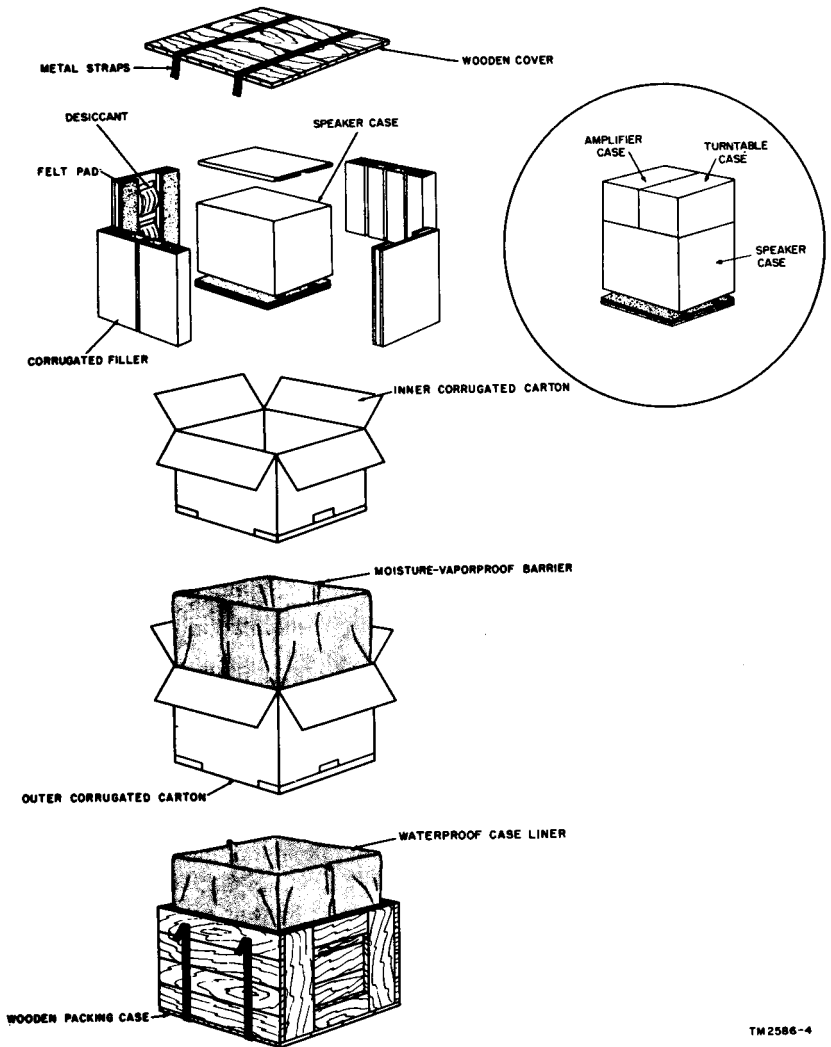

Figure 12. Typical Packaging diagram.
b. *Unpacking.* To unpack the equipment (fig. 12), proceed as follows :
- (1) Place the wooden packing crate near the operating position.
- (2) Cut the metal straps at the top of the crate and bend them back.
- (3) Remove the nails from the top of the wooden packing case with a nail puller.